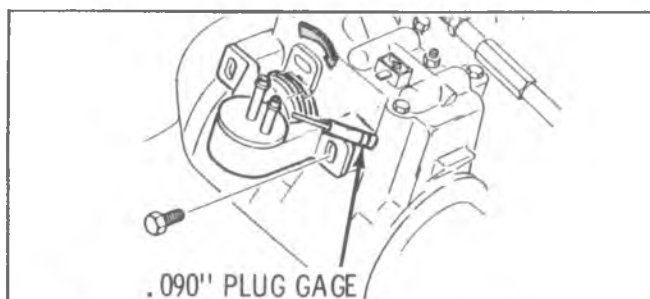

Fig. E-8—Transmission Vacuum Valve Adjustment
4. **TRANSMISSION VACUUM VALVE ADJUSTMENT (350 Transmission) (Fig. E-8)**
1. Remove the two vacuum hoses from the valve noting the location of the vacuum hoses. (Fig. E-8)